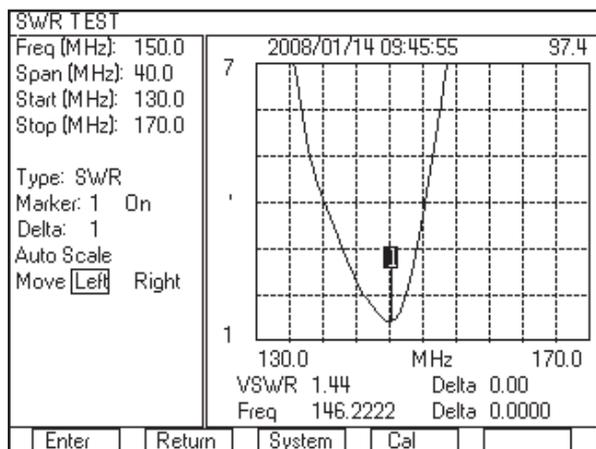

Figure 21 - SWR TEST screen showing VSWR
6. The SWR TEST screen should look something like Figure 21. The display is showing the VSWR of the antenna versus frequency.